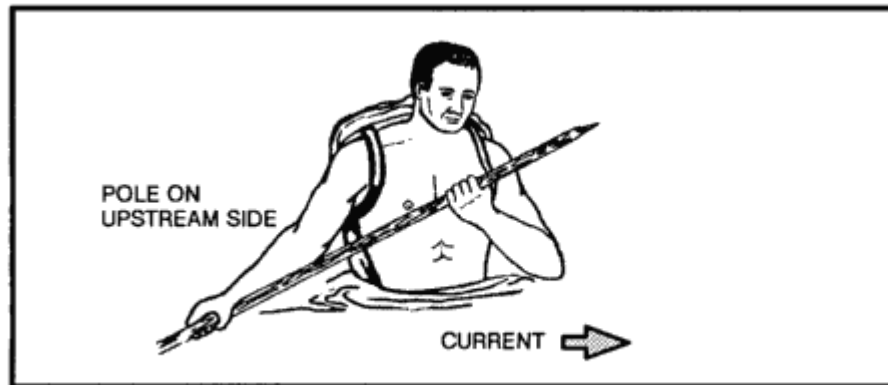

Figure 17-1. One man crossing swift stream.
- Find a strong pole about 7.5 centimeters in diameter and 2.1 to 2.4 meters long to help you ford the stream. Grasp the pole and plant it firmly on your upstream side to break the current. Plant your feet firmly with each step, and move the pole forward a little downstream from its previous position, but still upstream from you. With your next step, place your foot below the pole. Keep the pole well slanted so that the force of the current keeps the pole against your shoulder (Figure 17-1).